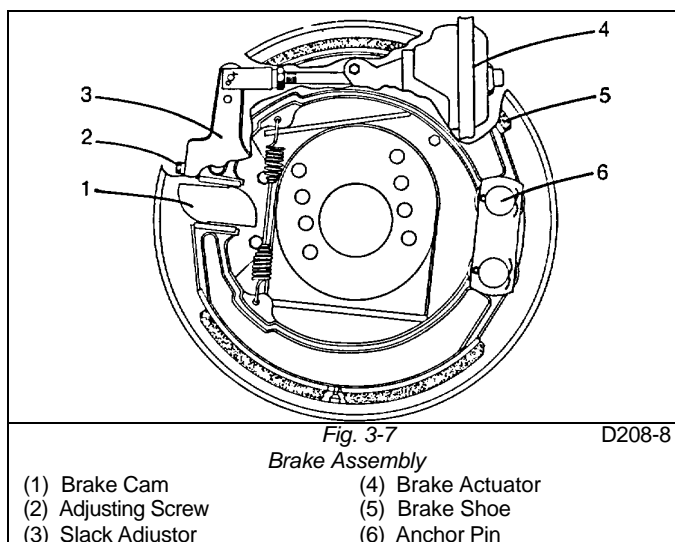

Fig. 3-7
3-6 Front Wheel Brake Adj. (Fig. 3-7)
- Turn the adjusting screw (2 in Fig. 3-7) on the slack adjuster until the brake shoes contact the drum and prevent wheel rotation.